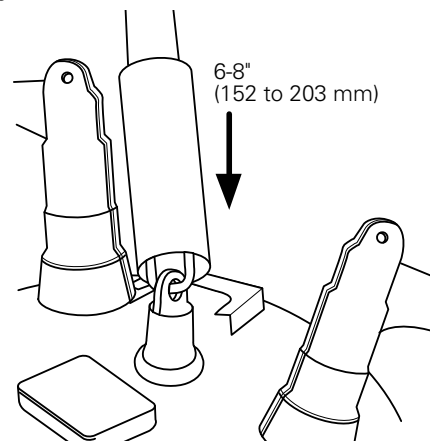

Figure 18. In one motion, rapidly replace the fuse holder.
- Clamp exposed fuse holder eye with a hotstick and with one rapid motion, insert assembly fully into the housing. (See Figure 18.)